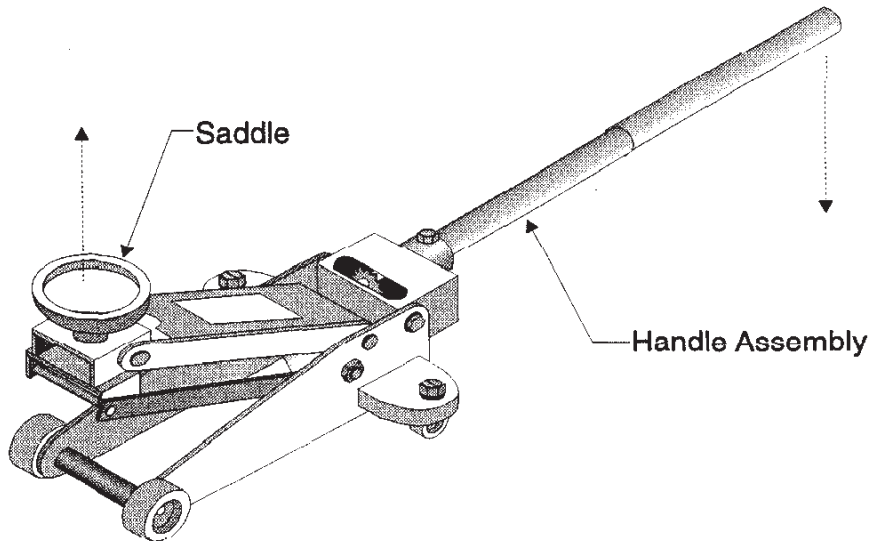

Figure 4 -- Lifting the Vehicle
Step 3: Begin jacking by lowering the Handle Assembly as shown in Figure 4.